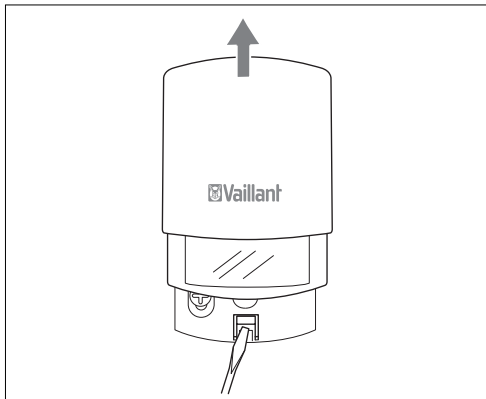

Fig. 3.1 Removing the wireless outdoor sensor
- ⇒ Insert a screwdriver into the locking tab mechanisms of the wall socket. Pull the wireless outdoor sensor up and away from the wall socket (see Fig. 3.1).